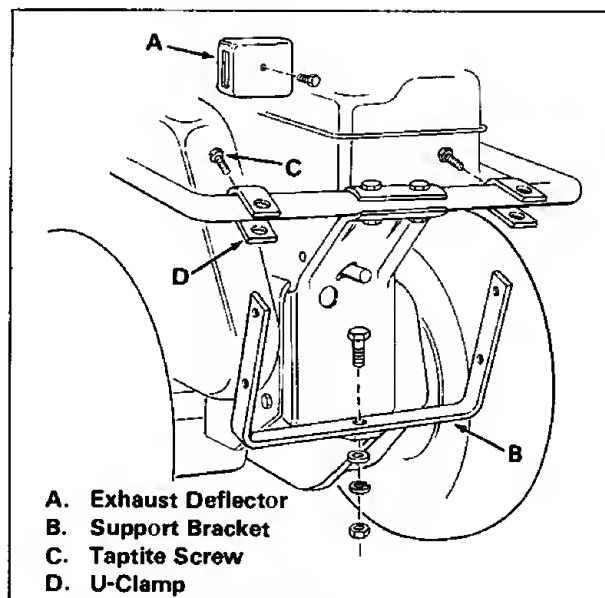

Figure 3
9. Remove the original exhaust deflector and install the new exhaust deflector (item A, figure 3) to direct the exhaust to the side instead of rearward.
10. Install the support bracket (item B) on the riding mower drawbar using the remaining 1 inch (25.4 mm) long capscrew with washer, lockwasher, and nut as shown in figure 3.